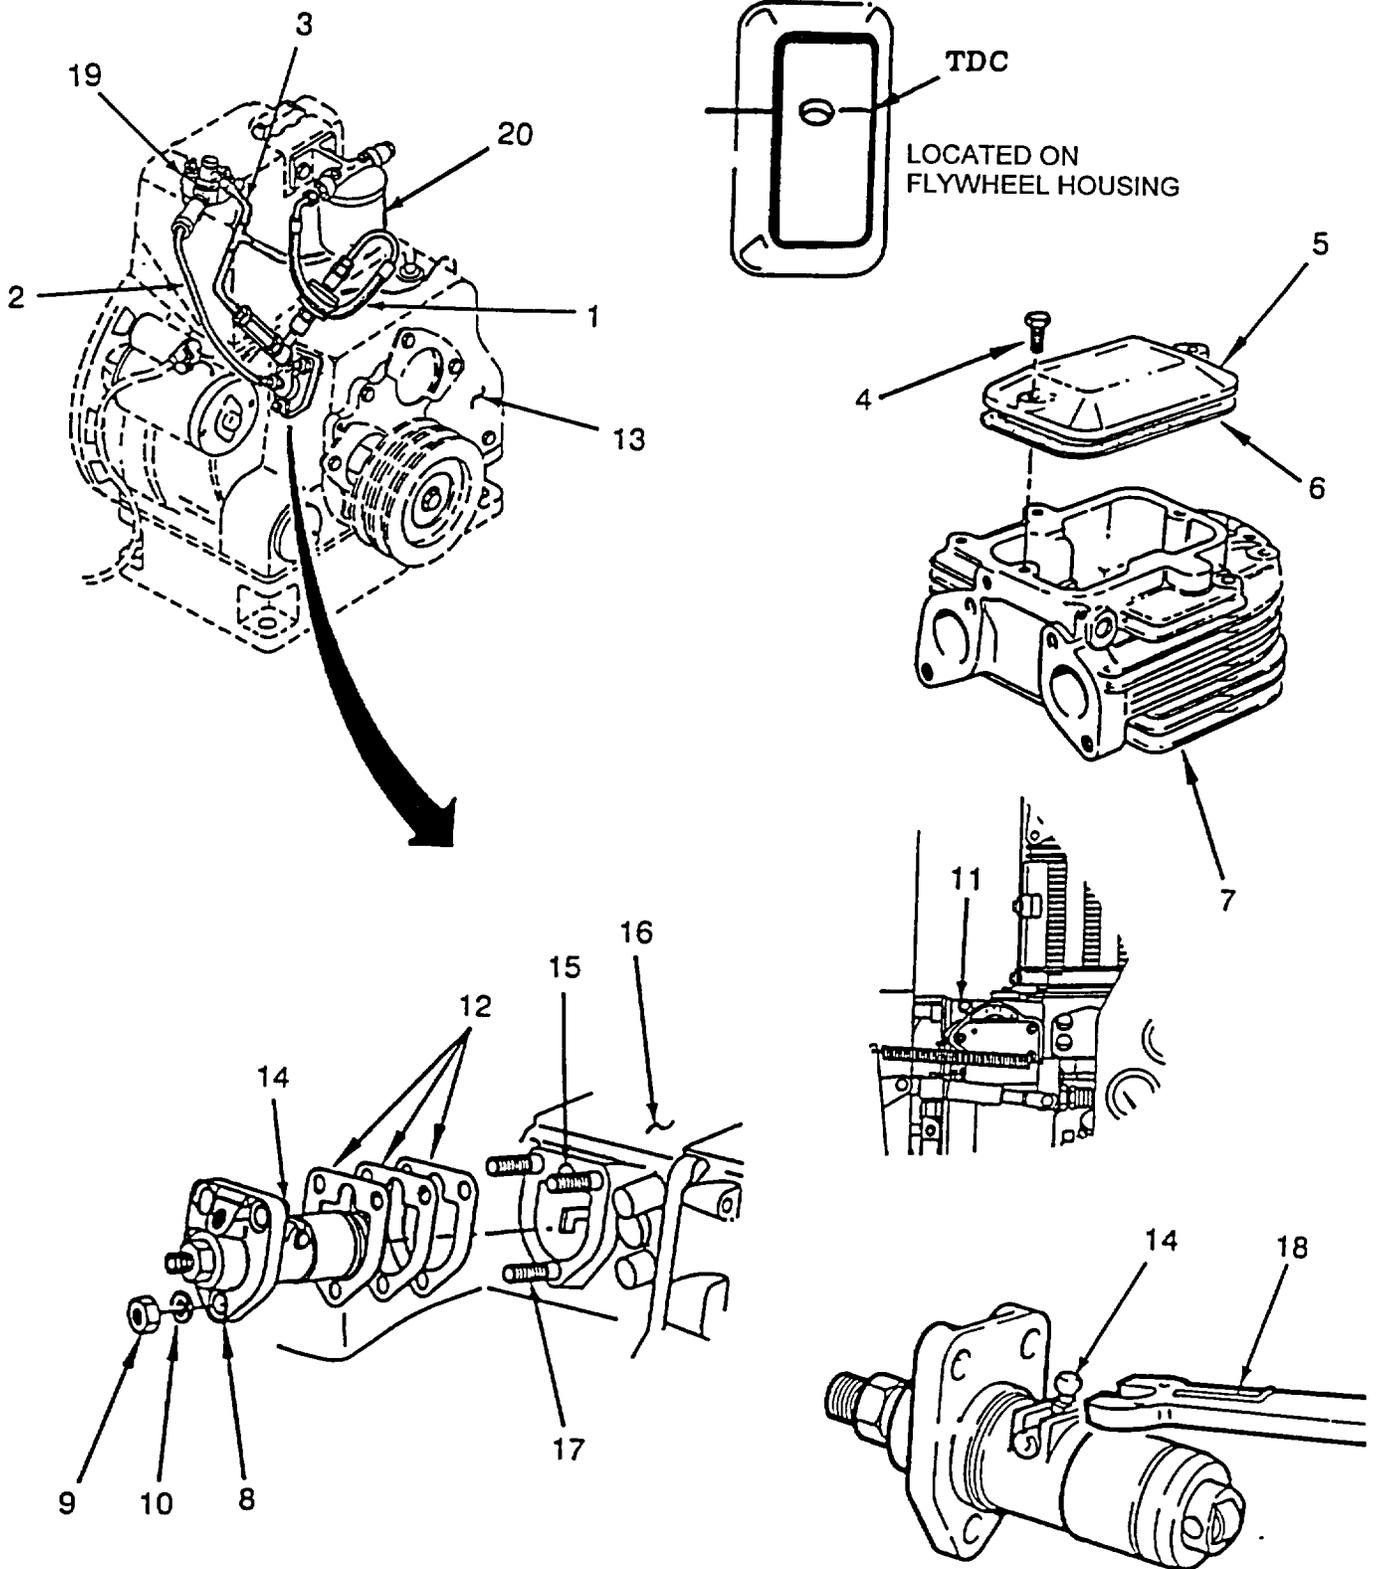

Figure 5-14. Fuel Injector Pump
## (1) Removal. (Refer to Figure 5-14).
- (a) Remove fuel control solenoid valve assembly (1). (Reference para. 5-10.c.).
- (b) Remove fuel pipe assembly (2) and leak-off pipe assembly (3). (Reference para 5-10 a.).
- (c) Remove two screws (4), cover (5), and gasket (6) from cylinder head (7).
- (e) Remove three retainer nuts (9) and lockwashers (10). Discard lockwashers (10).
**Do not use force to remove the fuel injector pump (8). If difficulty is experienced, remove the gear end cover (13) and position the fuel pump rack ball (14) to clear the cut-out (15)**
- (f) Move stop/run lever (11) clockwise slowly and remove fuel injector pump (8) and any pump timing shims (12).
- (g) Carefully lift out the fuel injector pump (8) and retain the pump timing shims (12).
- (h) Remove pump mounting studs (17) from crankcase (16).